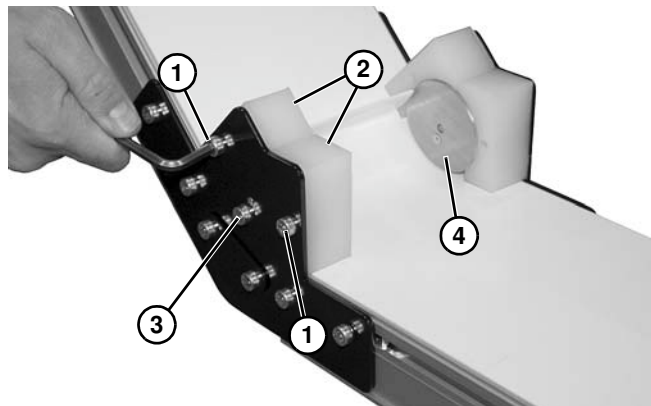

Figure 130
- If equipped with a lower knuckle, remove screws (**Figure 130, item 1**) and remove guards (**Figure 130, item 2**) on both sides of knuckle.
- Remove screws (**Figure 130, item 3**) and remove roller bearing assembly (**Figure 130, item 4**) on both sides of knuckle.